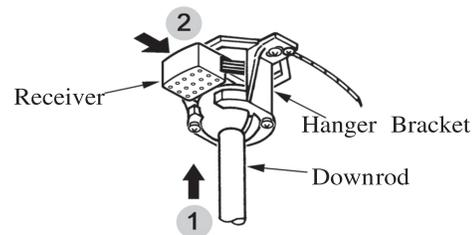

FIG.4
2. Carefully lift the fan and seat the downrod ball assembly on the hanger bracket. Be sure the groove in the ball is lined up with tab on the hanger bracket. Do not pinch wires between the ball and downrod assembly and hanger bracket (See fig.4)